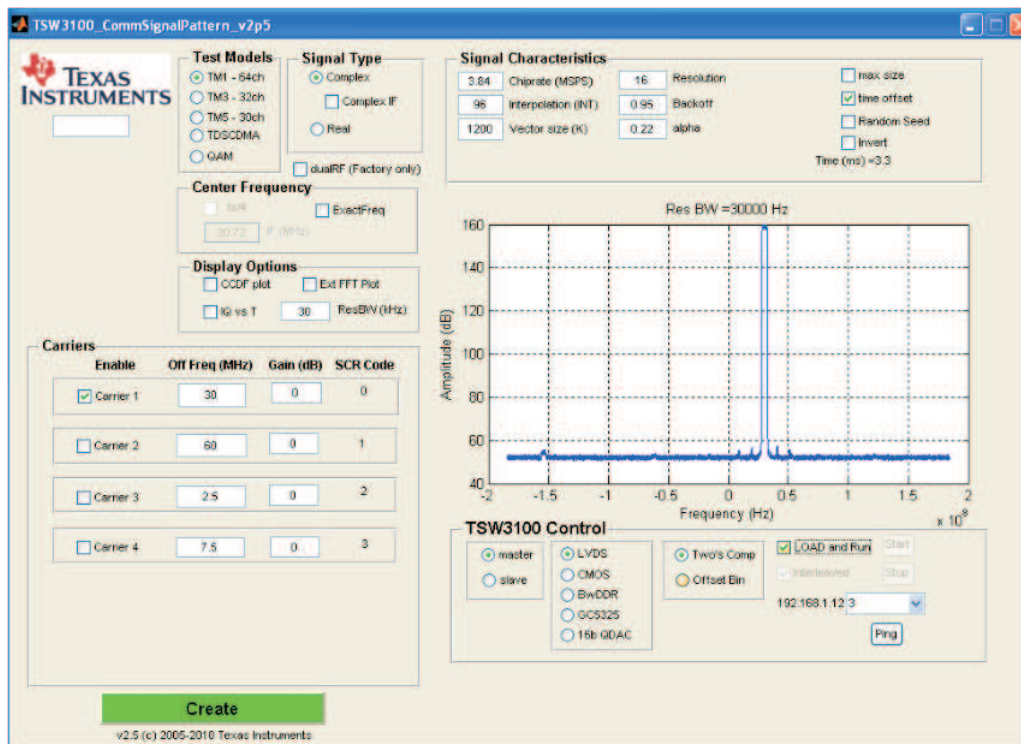

Figure 10. TSW3100 CommsSignalPattern (WCDMA) Programming GUI
- All other settings must be selected as shown in Figure 10.